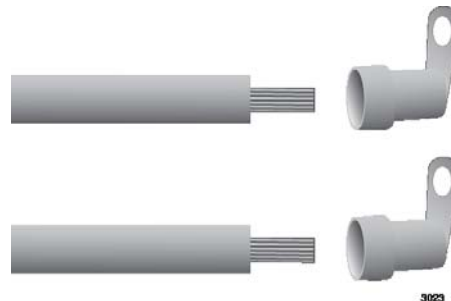

Figure 76. Attaching the Power Wires to the Right Angle Terminal Lugs
2. Insert the power wires into the terminals included with the power supply and use a crimping tool to secure the wires to the terminals. See Figure 76.